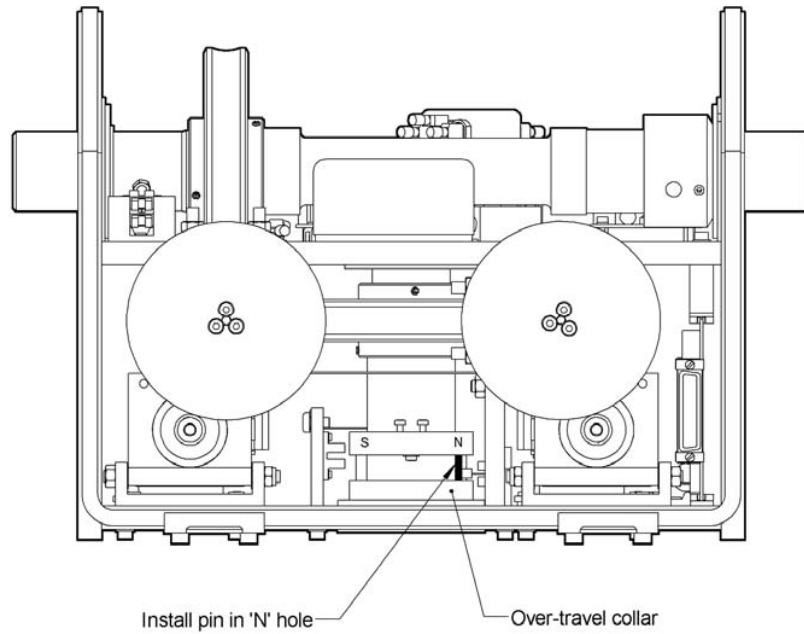

Figure 4.4: 360° Limit Pin Installation (North of tropics).
- Remove the 2AP cover. While viewing the unit from the front (see figure 4.4 or 4.5), rotate the over-travel collar in a clockwise direction (if >25° N) or in a counter-clockwise direction (if >25° S) until the collar is stopped by the azimuth reference sensor blocker.
- See figure 4.4 or 4.5 on how to install the Limit Pin for North and South of the tropics respectively. Install the supplied pin (located with the spare fuses) in the appropriate hole in the over-travel collar. These are identified with an "N" stamped on the outside of the over-travel collar for the Northern Hemisphere and an "S" for the Southern Hemisphere.